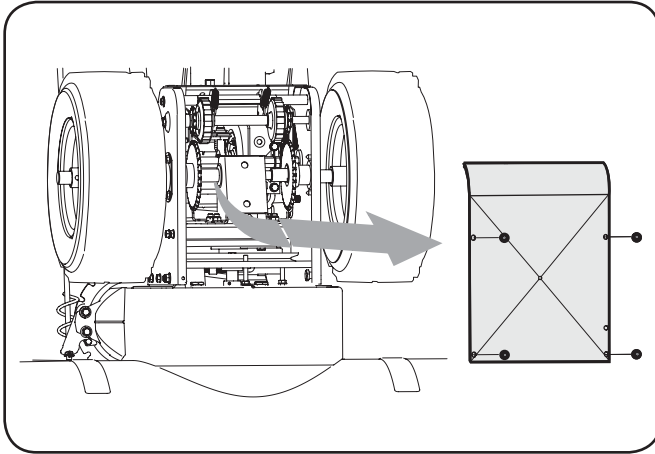

Figure 6-6
2. Remove the frame cover underneath the snow thrower by removing the self-tapping screws. See Figure 6-6.
- Remove screws from the frame cover underneath the snowthrower. See Figure 6-6.